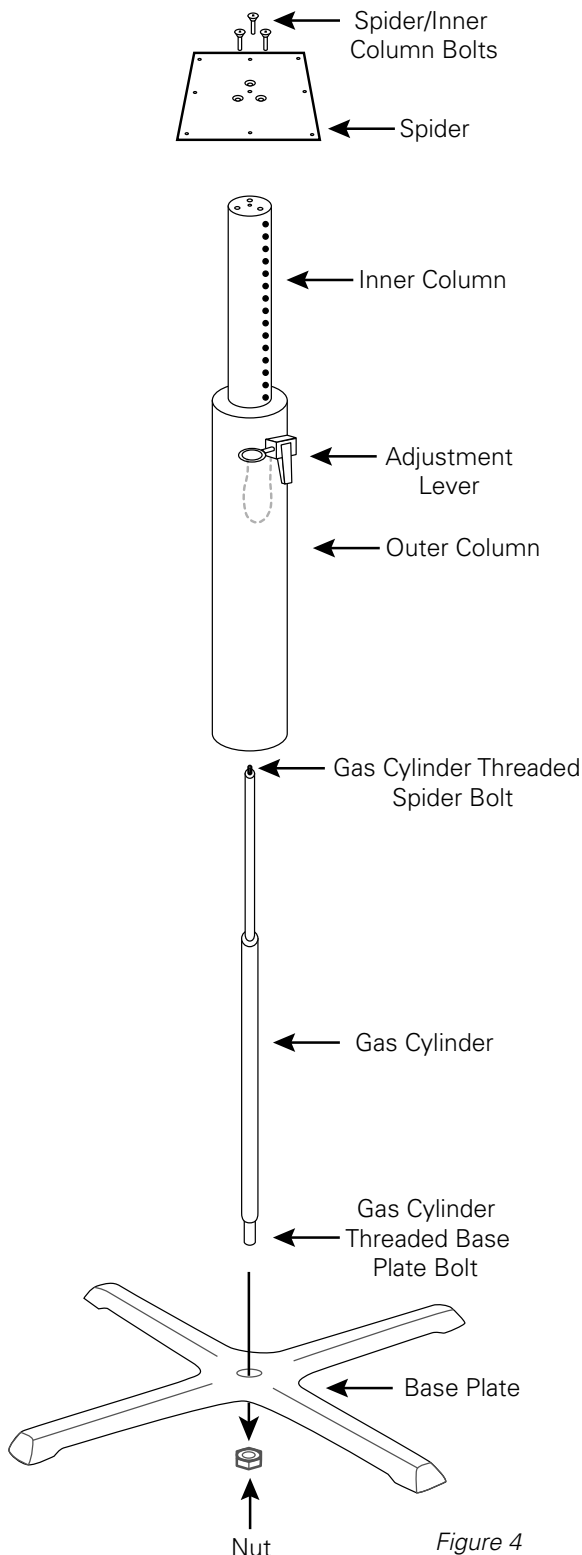

Figure 4
3. Once desired height is reached, release the adjustment lever and make sure the inner column is locked in place. Insert the pin to lock the lever so it is facing down as seen in Figure 4.